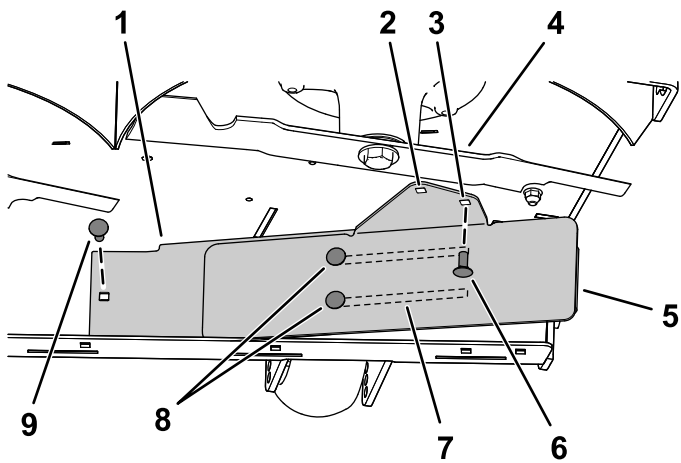

Figure 9
3. Install the left side of the baffle using a carriage bolt (5/16 x 3/4 inch) and flange nut (5/16 inch) as shown in Figure 9.
4. Loosen the 2 carriage bolts (5/16 x 3/4 inch) in the baffle slots, and slide the baffle until the hole aligns with the hole in the mower deck (Figure 9).
5. Install baffle as shown in Figure 9.
Important: Ensure that you use the correct hole for the baffle; refer to Figure 9.
6. Tighten the 2 carriage bolts (5/16 x 3/4 inch) in the baffle slots (Figure 9).